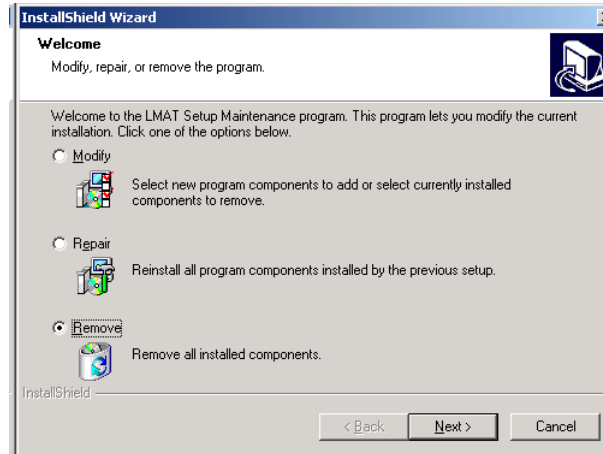

Figure B-17 InstallShield Wizard Dialog Box—Remove
4. The InstallShield Wizard—Welcome dialog box opens. See Figure B-17.
4. The InstallShield Wizard dialog box opens similar to Figure B-17. Select **Remove** and click **Next**.